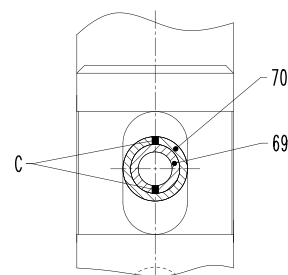

Figure 7-10
10. Put inner dowel pin (69) into outer dowel pin (70); see «Figure 7-10», so that the slits (C) of them are opposite to each other. Press them as one piece through the hole of the hexagon head (B) and the slot in the spindle (64).